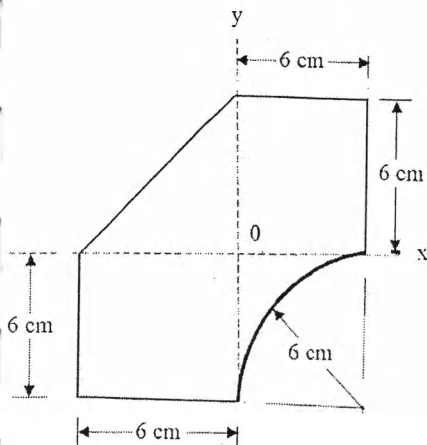

Figure 3
3. Locate the centroid of the thin plate shown in Figure 3. [4]